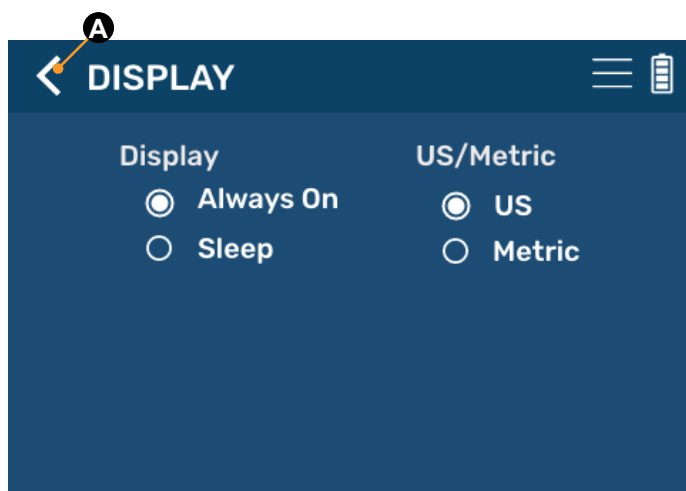

Fig.45
2. Select preferred entries on the **DISPLAY** screen, including whether the system will always be on or will go to sleep and if U.S. or metric terms are used (Fig.45).
2. From the **DISPLAY** screen (Fig.45), select the desired unit of measure; US or Metric.